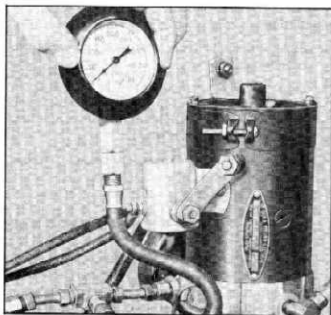
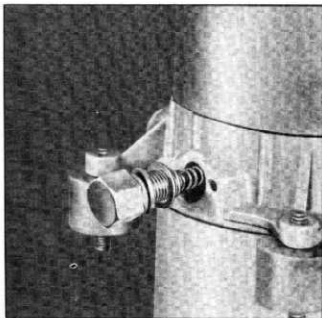

Fig. 55—Pump Pressure Check
Fig. 58—Dura Pressure Relief Valve
the pump reservoir. For efficient operation, fluid level should be checked and additional fluid added as indicated by the fluid level mark on the side of the reservoir. Foreign matter obstructing the pressure relief valve or internal gears of the pump may also cause low pressure resulting in slow operation of the various power units. Figure 55 shows the method of testing the fluid pressure with a pressure gauge connected to the pressure port of the pump.
- With a pressure gauge, as illustrated in figure 55, check the pump fluid pressure according to pressure specifications as outlined. Remove the pressure relief plug, washers and compression spring (fig. 58). Inspect this assembly for possible obstruction or damage to spring. Check the adjustment of pressure to within operating range, by varying the number of washers on the plug. Adding washers decreases the pressure, removing washers increases the pressure.